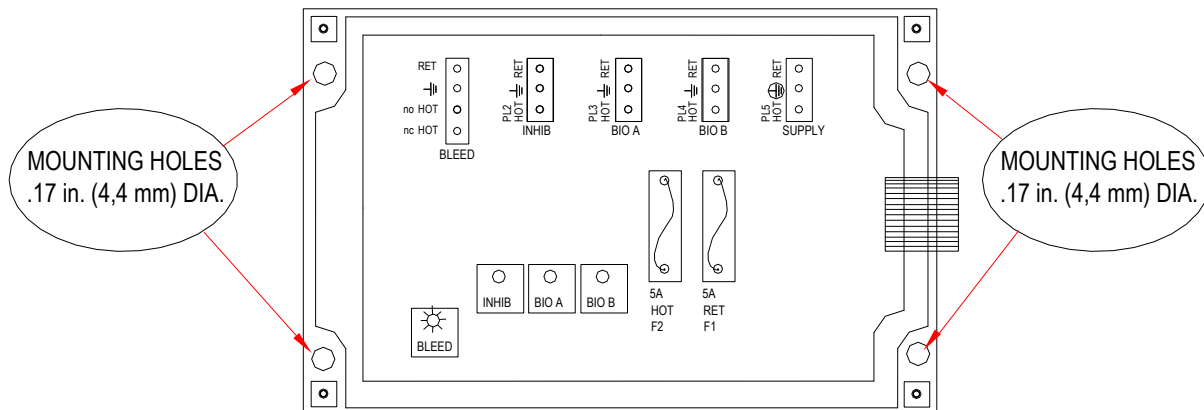

Fig. 3
Mount the bottom half of the controller using the four (4) holes provided (*Fig. 3*).